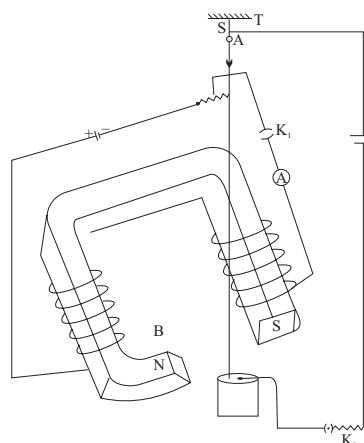

Fig. 13.3 Experimental set-up to demonstrate force on a current carrying conductor
- (iv) Connect a battery, a rheostat, an ammeter and a plug key across the electromagnet as shown in figure 13.3.